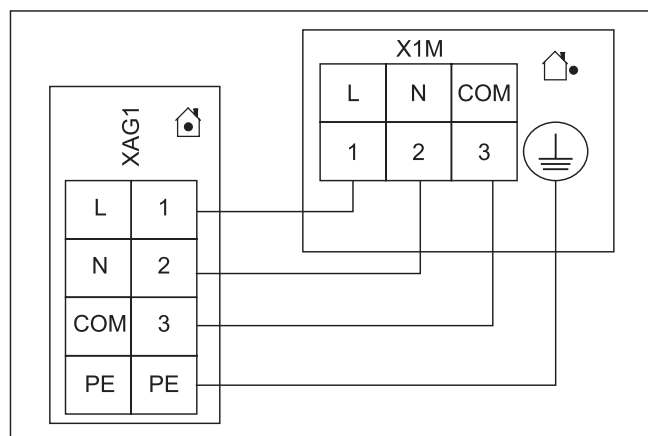

Fig. 3-38 Connecting the heat pump outdoor unit
- 2 Connect the heat pump outdoor unit to terminal strip XAG1 (see Fig. 3-38).